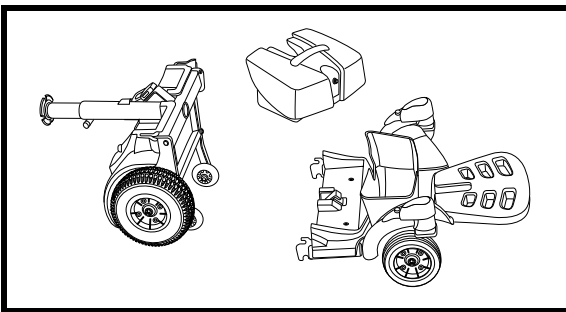

Figure 13. Rear Section Positioning
1. Tilt the Go-Chair rear section backward onto the anti-tip wheels. See figure 13.